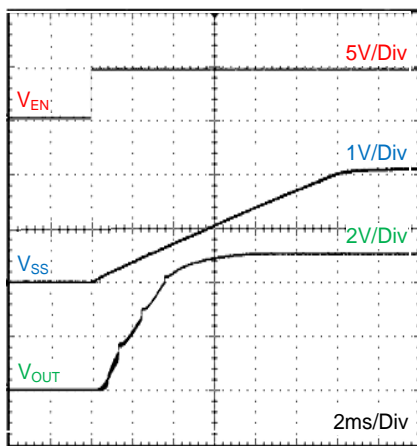
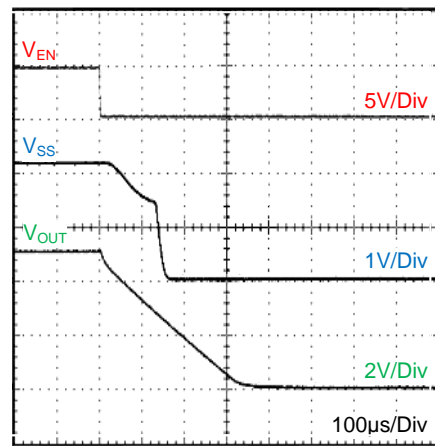

Figure 8. EN start-up $I_{OUT} = 2A$
Figure 9. EN shutdown $I_{OUT} = 2A$
Turning Q1 on applies a low voltage to the enable (EN) pin and disables the output of the supply shown in Figure 9. If Q1 is turned off, the supply executes a soft-start power-up sequence, as shown in Figure 8. A regulated output voltage is produced within 5ms.